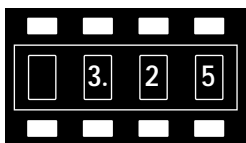

Figure 2
3. Press **RUN/SETUP** again to return the dispenser to **SETUP** mode (**SETUP** indicator light on). The time setting stored in the selected cell will be displayed. (Figure 2)